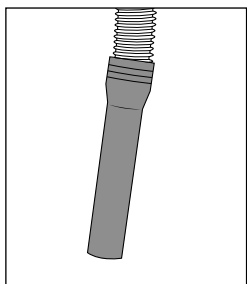

Fig. 9
- ◆ Use the suction hose 23 to suck up larger dirt particles (see fig. 9).